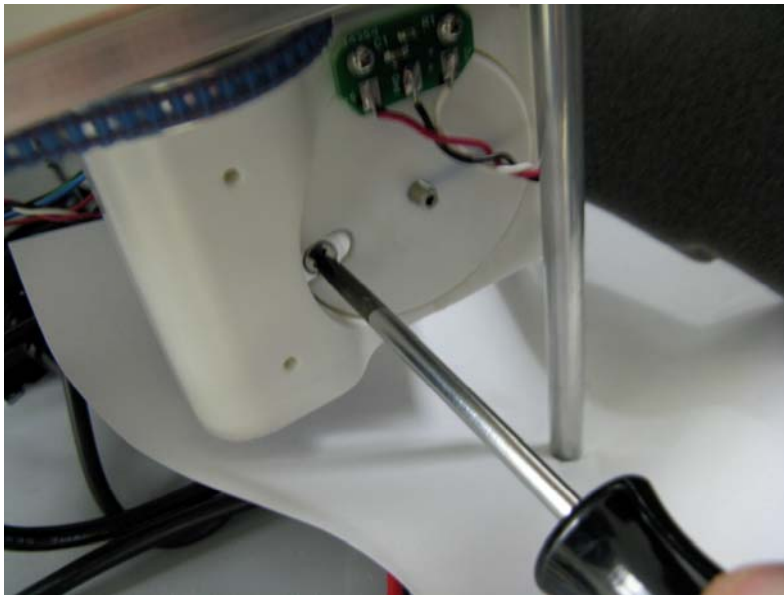

Figure 3.
9. Remove the clamp on the z-axis rotor (Figure 3) and pull the old z-drive tubing out of the top of the z-drive arm and discard.
12. Adjust the peek tubing so that it goes past the clamp about 1mm but no more. Set the clamp back in the rotor and tighten securely. (Figure 3)